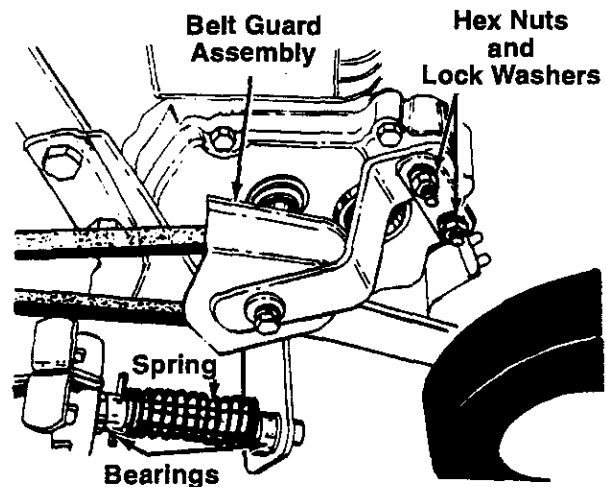

Figure 11
Shaft—It is important to lubricate the two bearings and the area under the compression spring on the shaft with light oil frequently during the season. Do NOT allow rust to form in this area. See Figure 11.
- To remove the V-belt, remove the belt guard assembly at the engine pulley. Remove the hex nuts and lock washers. See Figure 11.